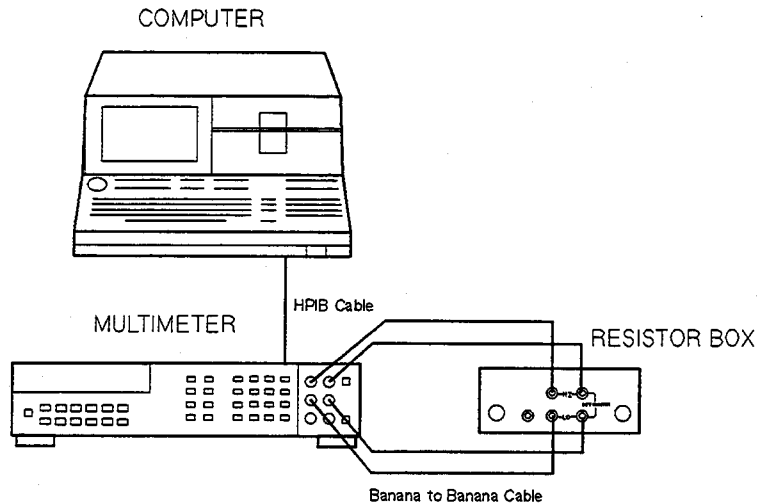

Figure 3-3. Resistor Box Calibration Setup
3. Calibrate the 1 Ω Resistor Box according to the program instruction. Figure 3-3 shows the instrument setup for the Resistor Box calibration. The Resistor Box Calibration Program is described in Paragraph 1-8.